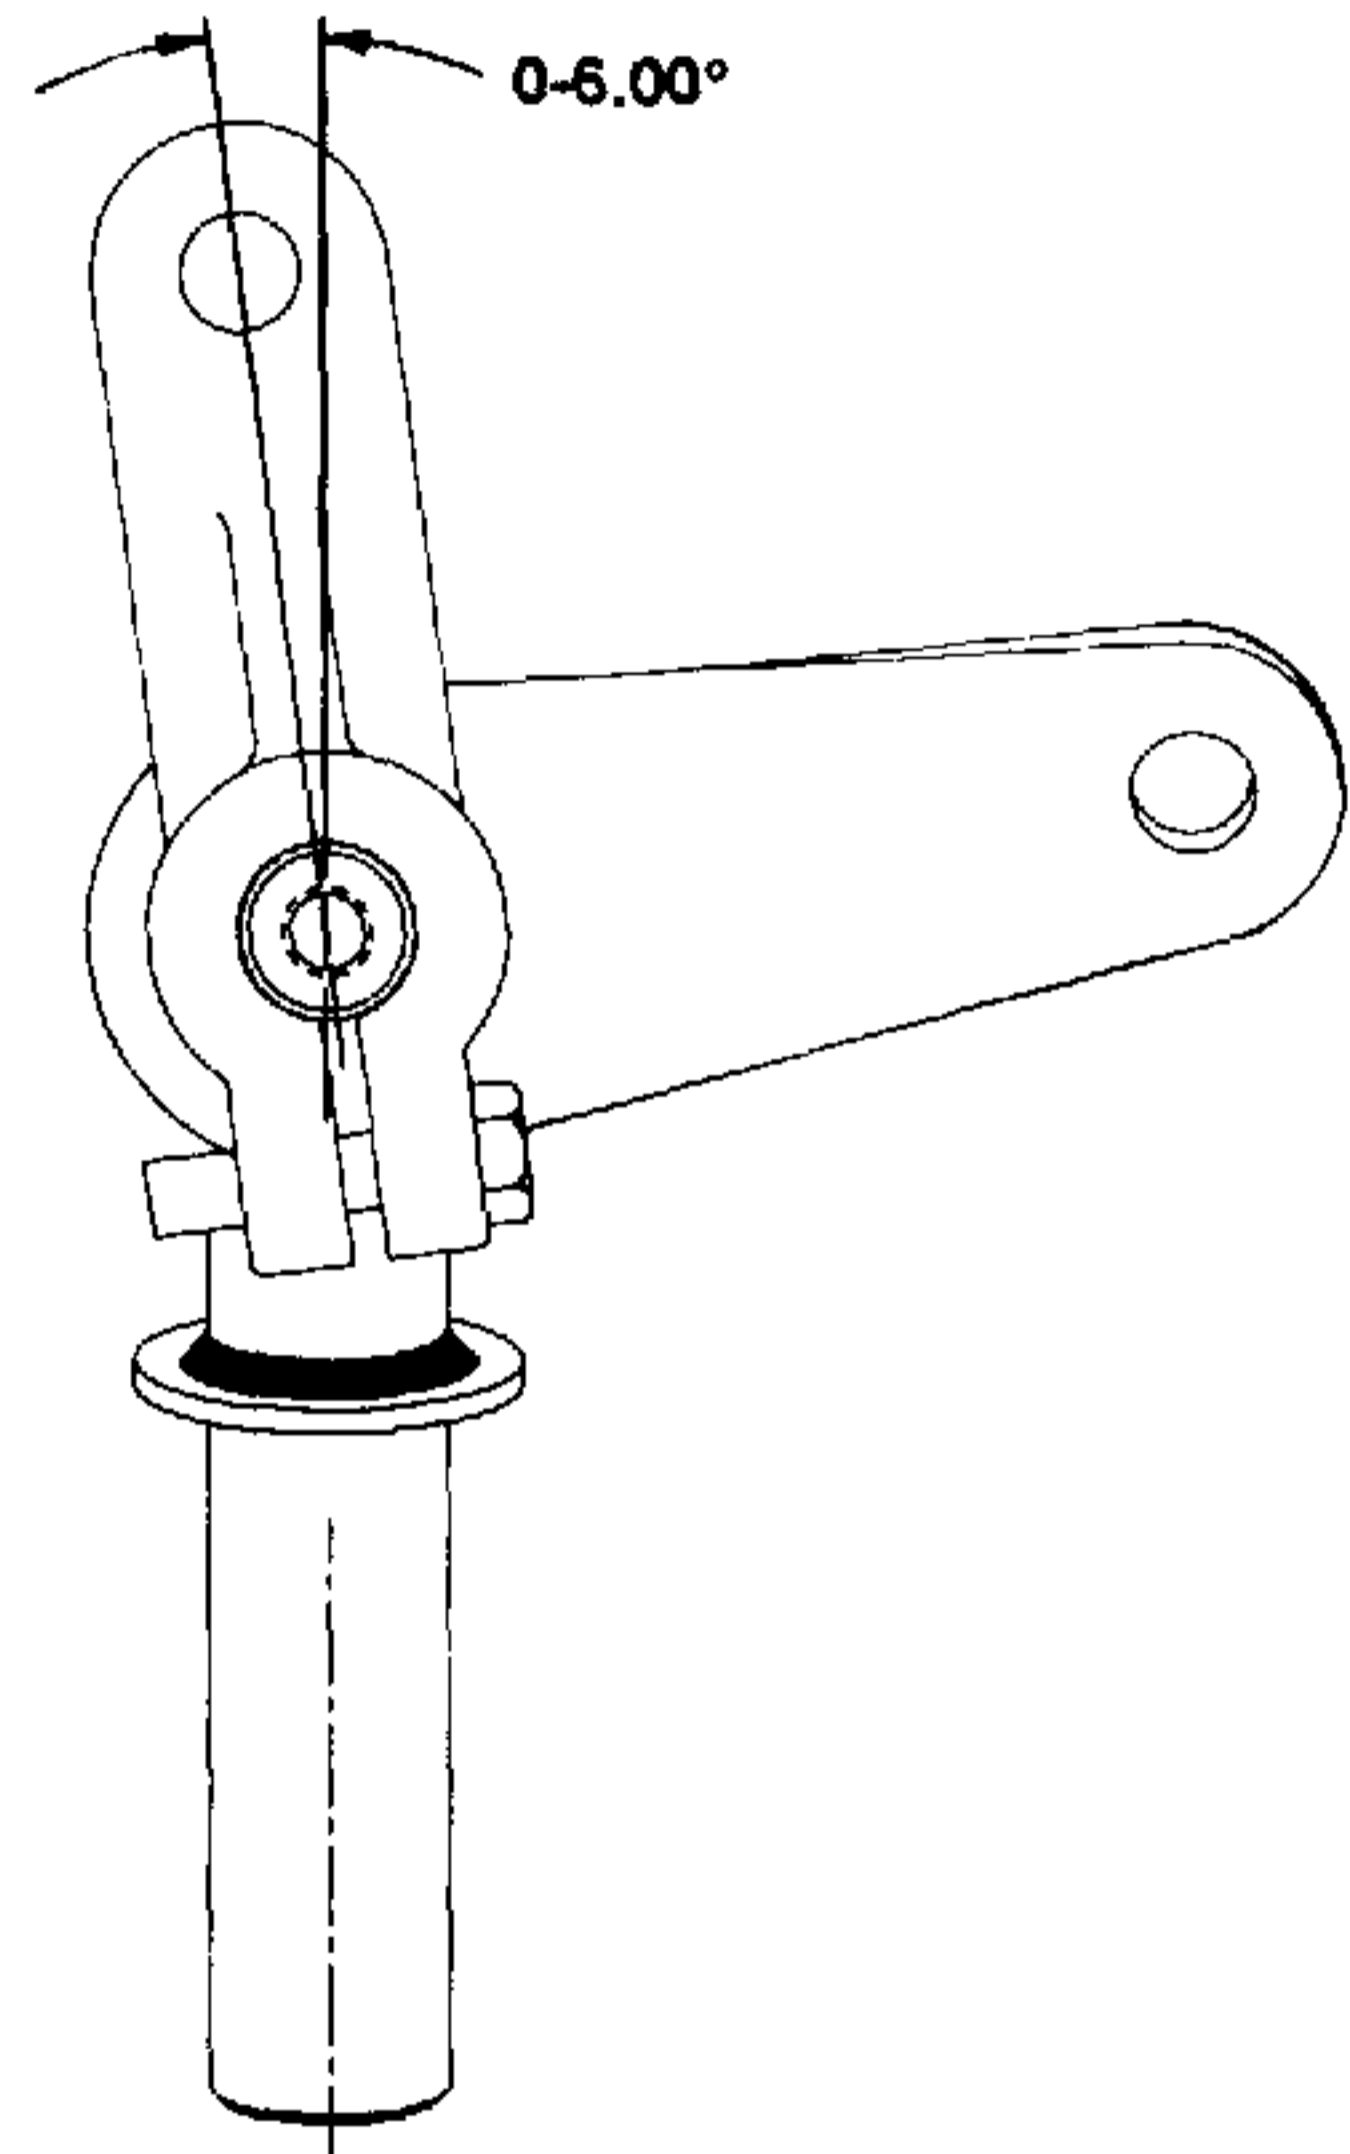

Figure 5-29. Steering Arm Installation (Models 1782, 1882, 2082 and 2182).
Power steering arm (17) must be installed so that it is set 0-6 degrees ahead of the front axle. Refer to Figure 5-29.
- (2) Position power steering arm (17) on steering knuckle. Install hex cap screw (19) and hex center lock nut (18).
- (3) Install flat washer (16) and hex cap screw (15).
- b. Install right steering knuckle assembly (11) and secure with flat washer (13) and hex cap screw (12).
- c. Install tie rods (5) as follows: